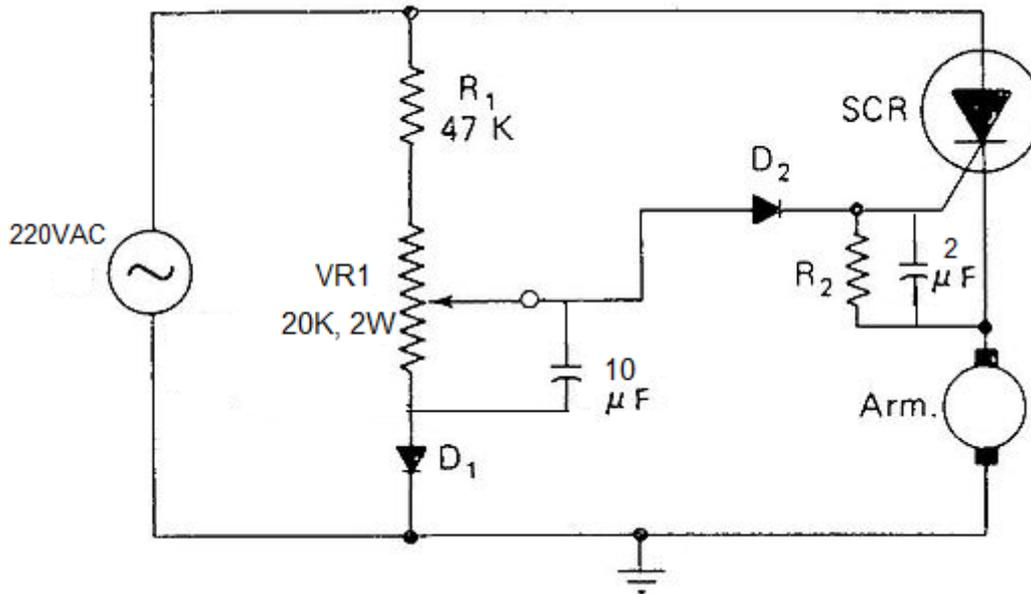
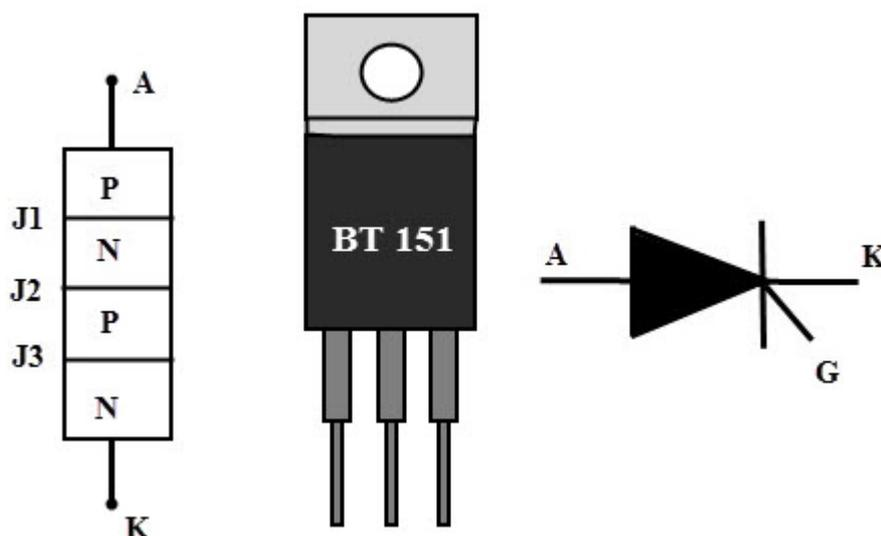

Figure 3: Half wave controlled rectifier using RC firing angles.
Figure 4: BT151 Thyristor pin assignment.
1. Complete the connections as per the circuit diagram in Figure 3. The pin assignment of the BT151 thyristor is shown below in Figure 4.